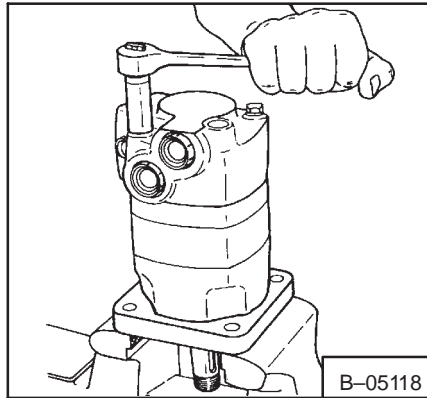

Fig. 3-35 Removing Motor Bolts
2. Remove the four bolts from the motor (Fig. 3-35).